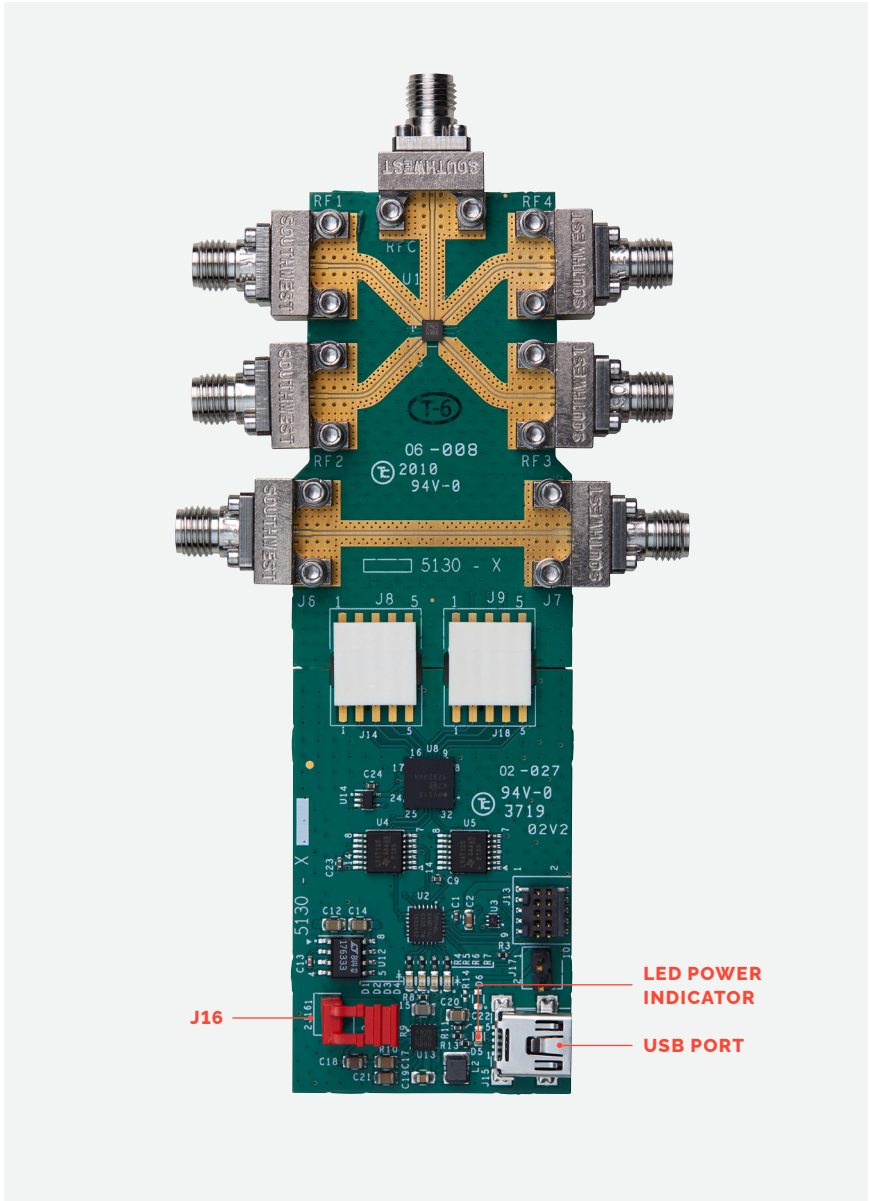

FIG. 1 MM5130 EVK and Driver Board
2. In an ESD protected environment, remove the MM5130 board from the ESD bag. Ensure jumper J16 is installed as shown in Fig. 1.